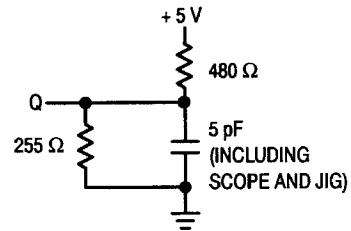

Figure 1B
6. Transition is measured 200 mV from steady-state voltage with load of Figure 1B.
5. Transition is measured 200 mV from steady-state voltage with load of Figure 1B.